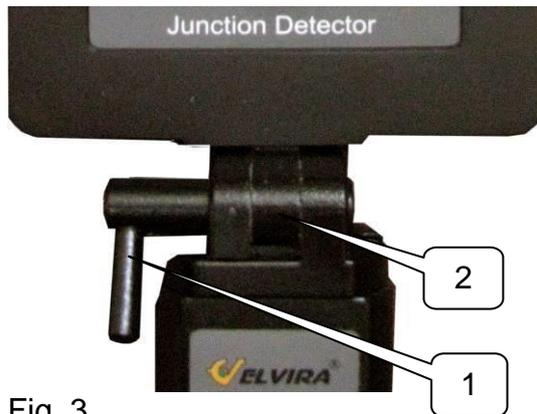

Fig. 3
4.2. Hinge joint of the receiving-transmitting antenna unit with a knob is designed to transform the unit into transportation position. (see Fig.3). Besides, it helps the operator to fix antenna in a position convenient for search. Fig. 3: 1- Fixing device; 2- Hinge joint.